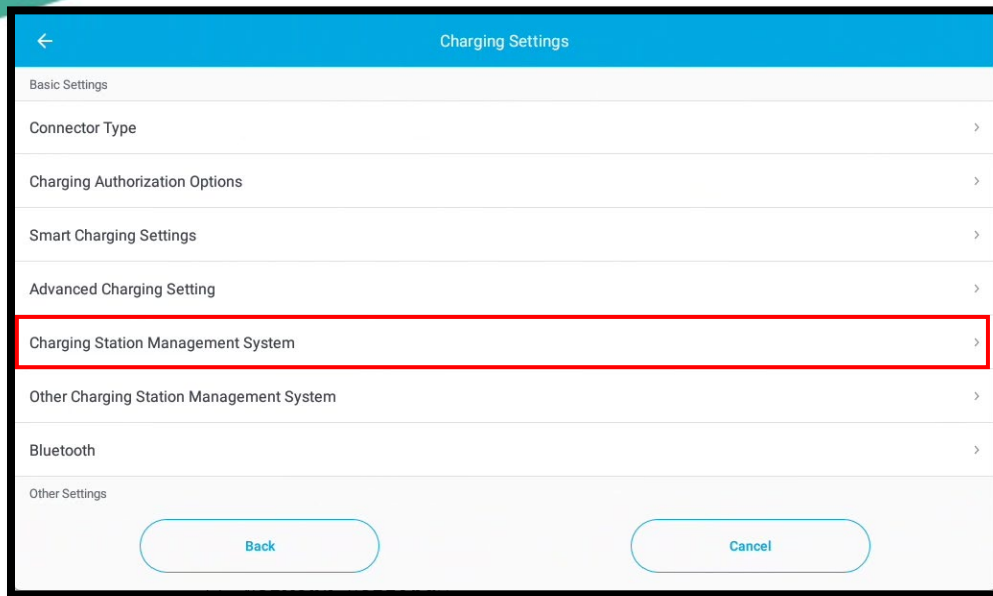

Figure 3.12 Select “Charging Station Management System”
- 2) Select **Charging Station Management System** in **Charging Settings** menu (Figure 3.12).